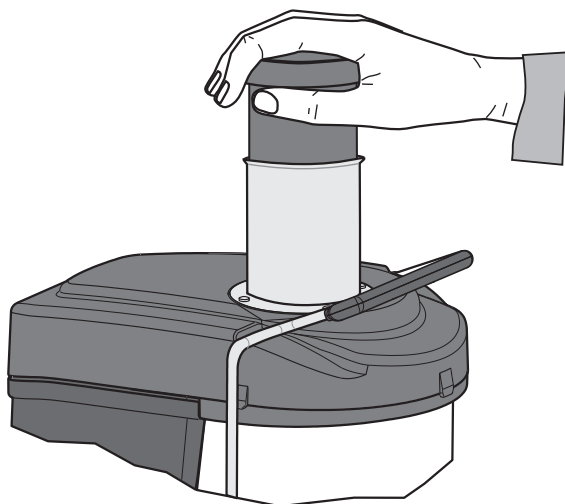

Fig. 7
- 6 Use the food pusher provided, to gradually push down the fruit and/or vegetables towards the spinning grating disc at the bottom of the feed chute (see Fig. 7). To obtain more juice always press the food pusher lightly. Do not insert fruit and/or vegetables when the motor is off.